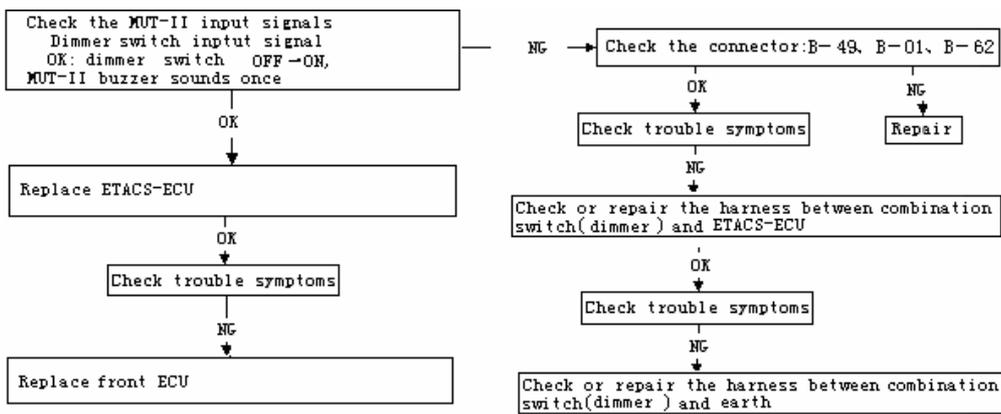

Fig 20-51
(3)Checking procedure No.3 as table20-13 and fig20-51.